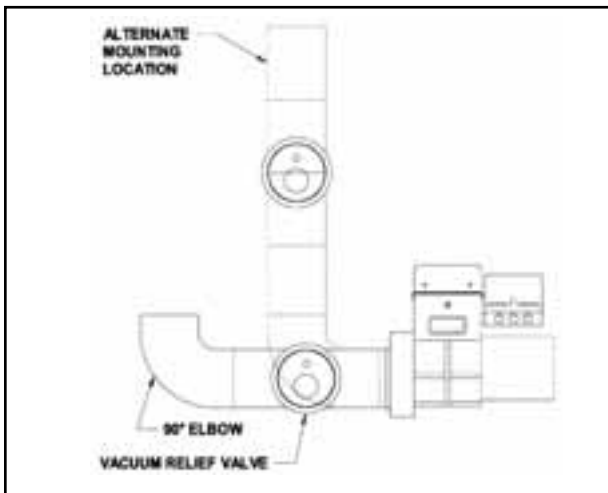

FIGURE 14: Connection of vacuum relief valve
8. A vacuum relief valve must be installed on the air intake side of the venting system. Locate the vacuum relief valve as close as possible to burner inlet. Follow the vacuum relief (draft regulator) manufacturer's instructions for installation. See figures 14 and 15 for vacuum relief valve.
2. The VRV should be installed close to the air inlet of the burner, see fig. 14 on page 8.